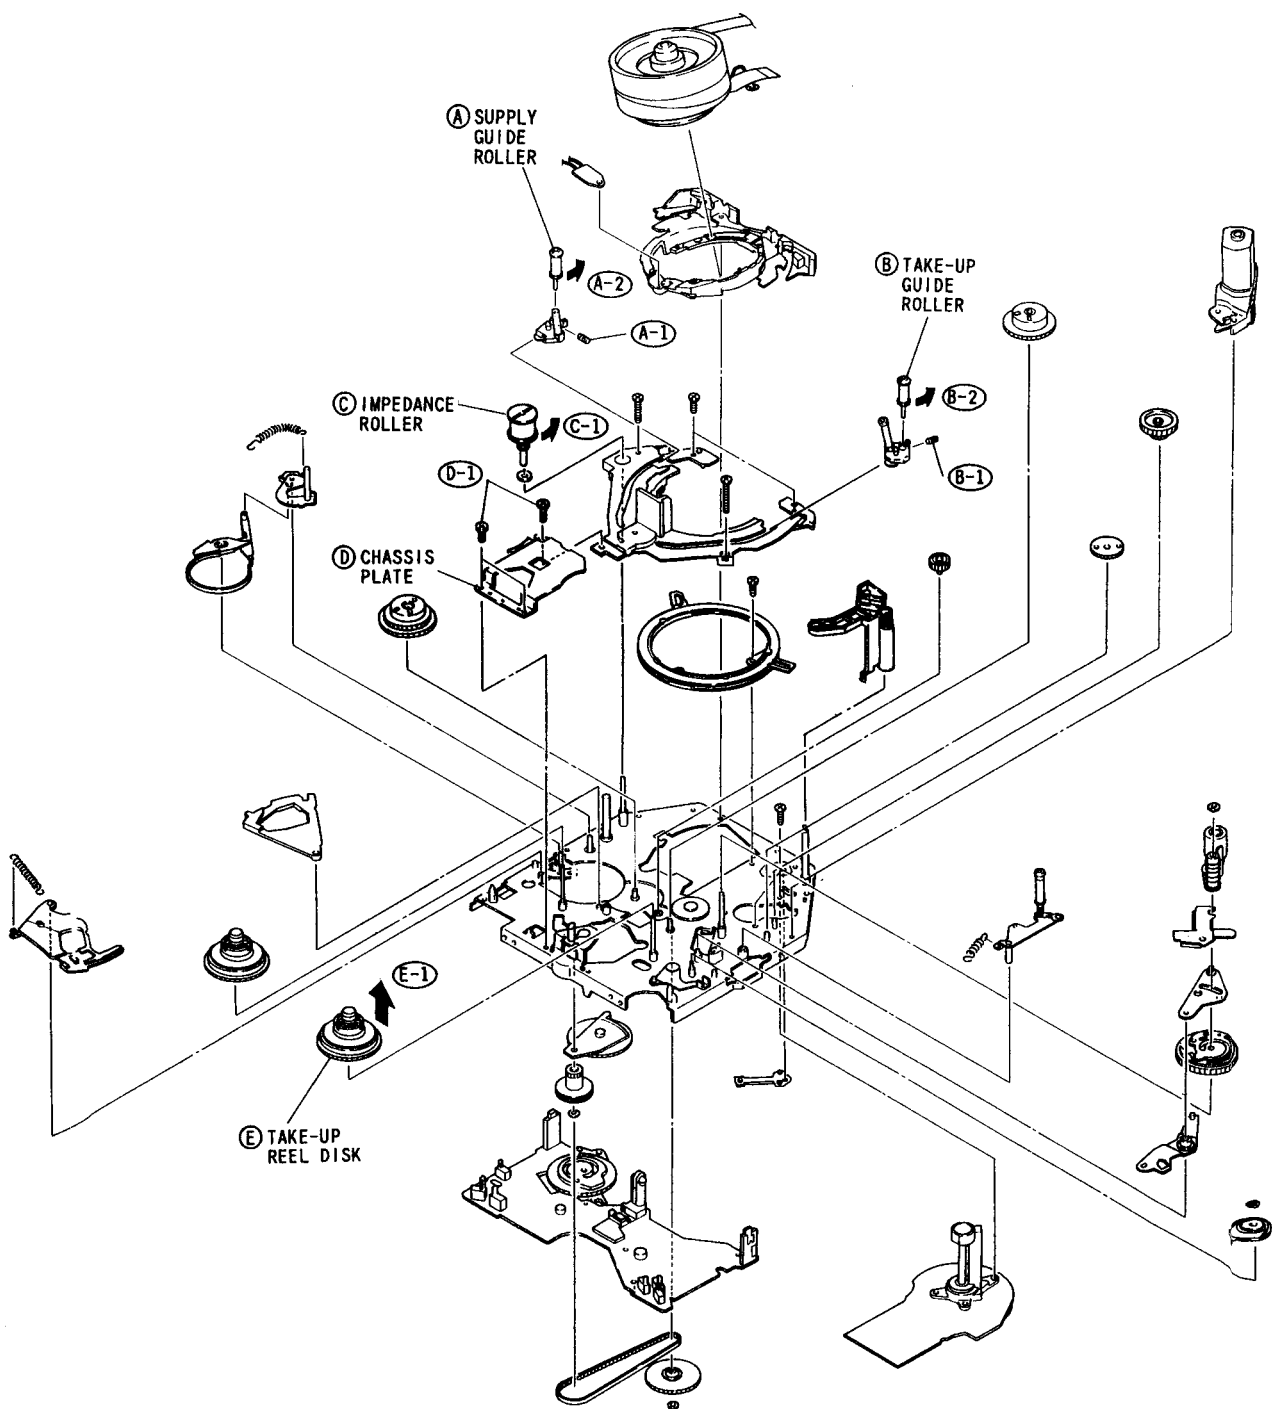

Fig. 4-5
A. Supply Guide Roller (Fig. 4-5)
- 1) Loosen one (1) screw.
B. Take-up Guide Roller (Fig. 4-5)
C. Impedance Roller (Fig. 4-5)
D. Chassis Plate (Fig. 4-5)
1. Remove three (3) screws.
E. Take-up Reel Disk (Fig. 4-5)